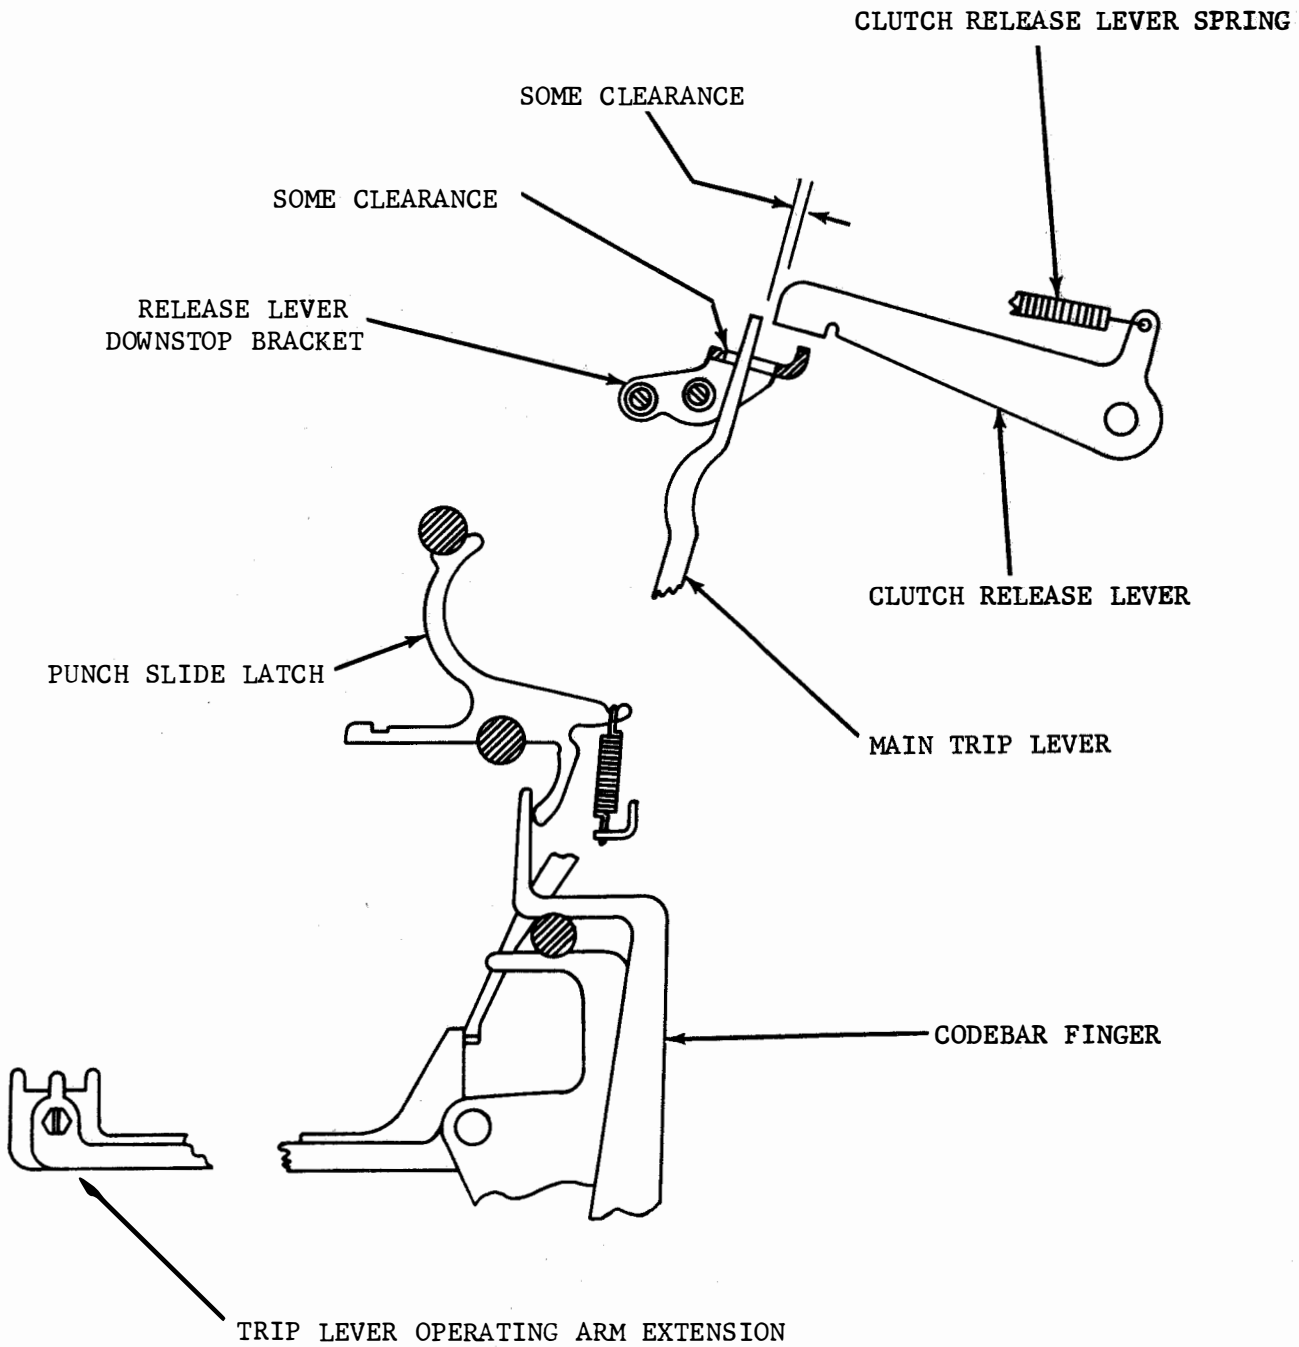

Figure 3
3.05 CLUTCH RELEASE LEVER (Figure 3)